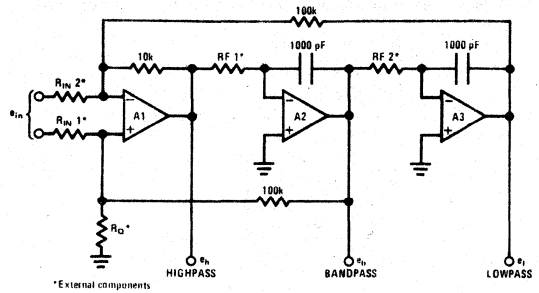

FIGURE 5. Differential Input
d) Differential input (Figure 5) transfer function equations are: